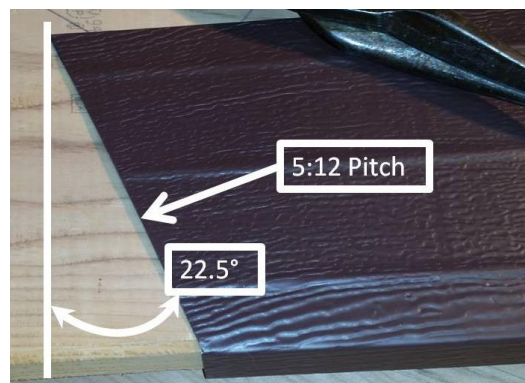

Figure 11-18. Gable Peak Front Side Fascia.
16. Measure from the end of the lower fascia piece to the peak and add 1½". Measure this distance from the appropriate factory edge and mark the top edge. Align the speed square 90° corner with this mark to mark and cut the necessary angle. See Figure 11-18 for the right-hand peak end cut.